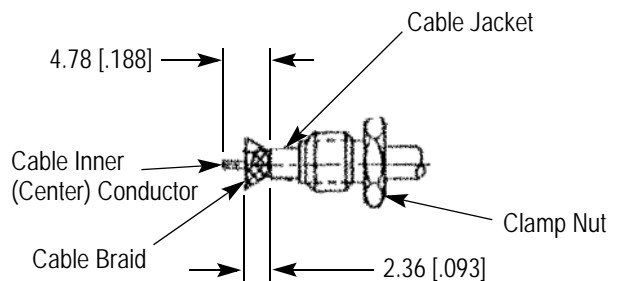

Figure 3
2.1. Preparing the Cable (Figure 3)
2. Trim the cable jacket, cable braid, and inner conductor to the length shown in Figure 3.